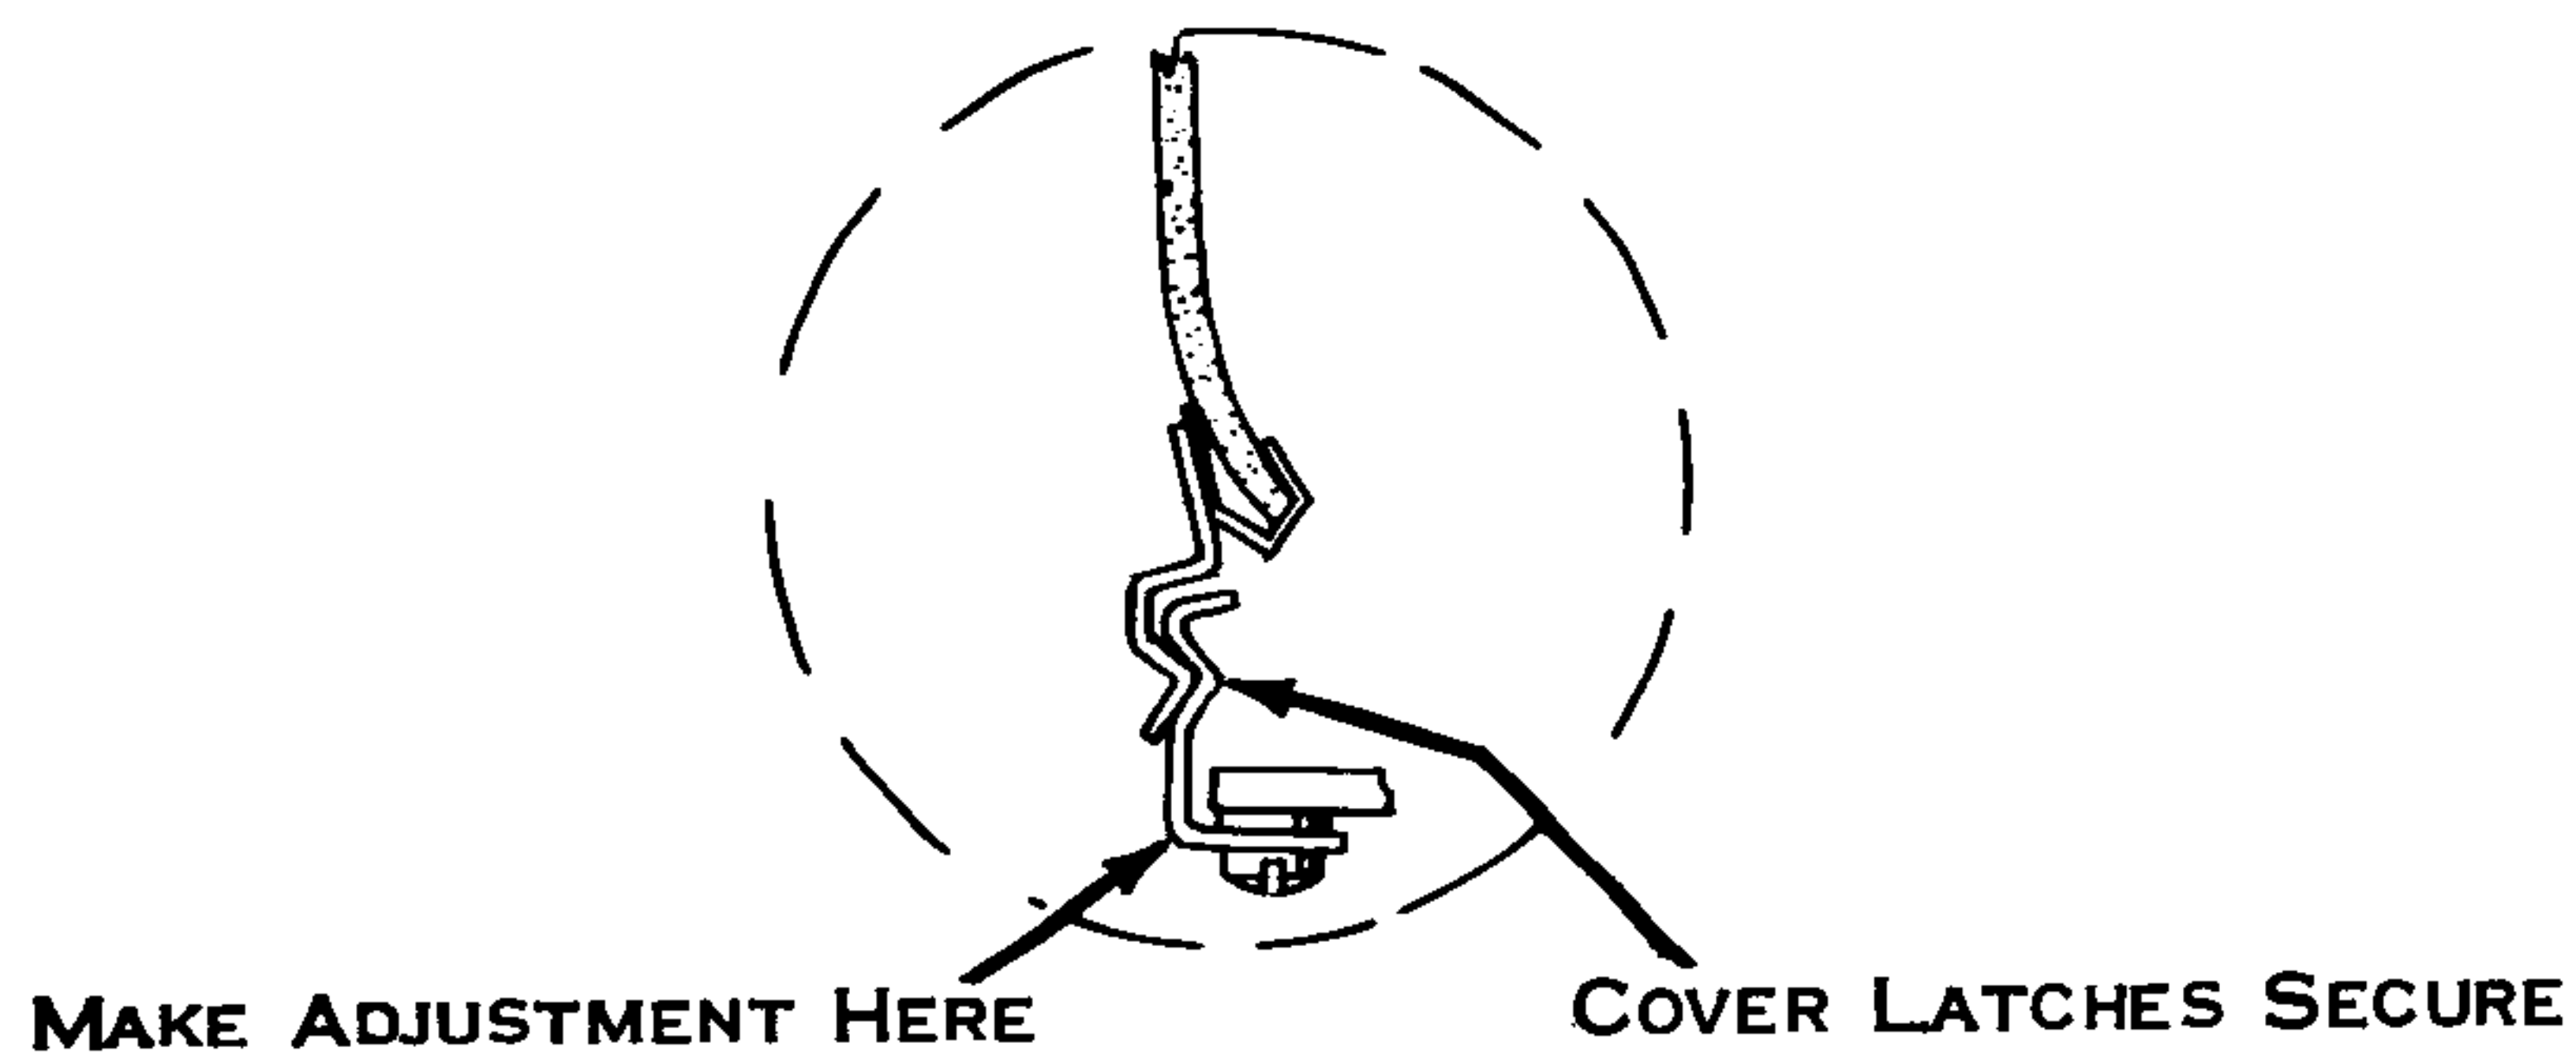

Figure 222. Center Cover Latch
2. Center Cover Latch (Fig. 222) - Position so that the top cover is latched securely in the closed position.